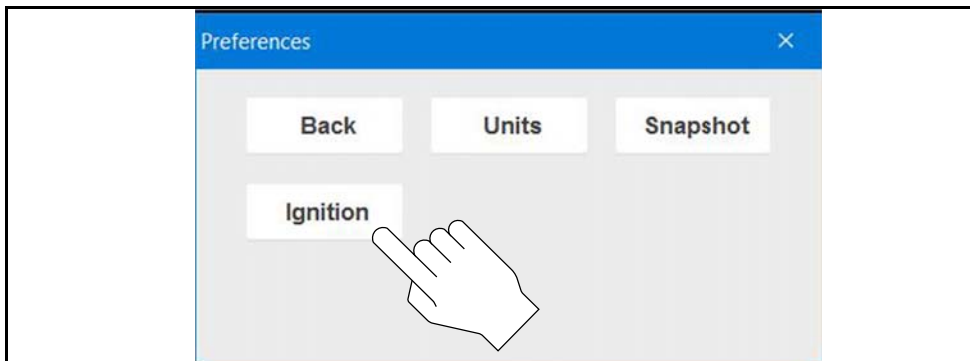

Figure 9-59
6. From the sub-menu select **Ignition** (Figure 9-59).